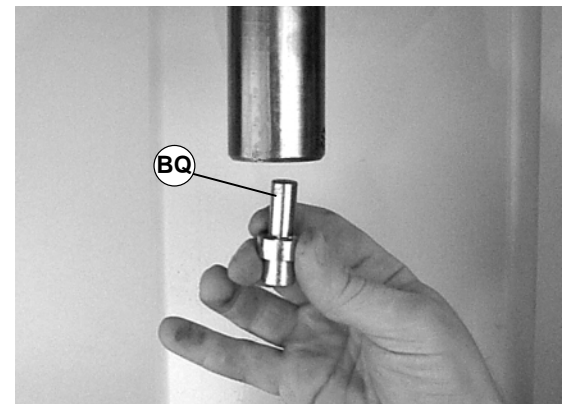

Figure 52
2. Install bearing insertion tool (part # 25-10☆) (BQ of Figure 52) into arbor press or similar device.